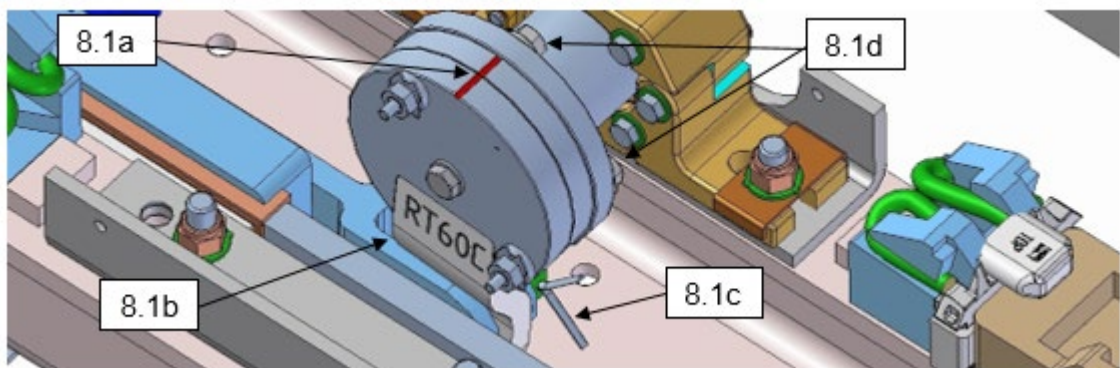

Figure 6
7.2 Check the following, at each Backdrive hollow bearer, using a 'check torque' (NR/SMS/PartZ/Z02 Point Reference Values), use Figure 6 to assist:
7.3 Visually inspect the following, use Figure 6 to assist: